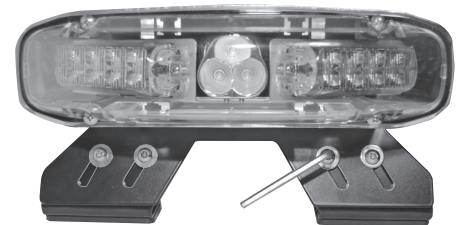

Fig. 4
8. ON PATROL is a low profile light bar with a feature that allows the installer to adjust the height and clearance between the bottom of the light and the vehicle's roof. There are two screws directly above each of the rubber pads. Using a 4mm Allen wrench, loosen the four (4) screws on one side of the light bar. Adjust the height and tighten screws. Repeat process on opposite side. See fig. 4.